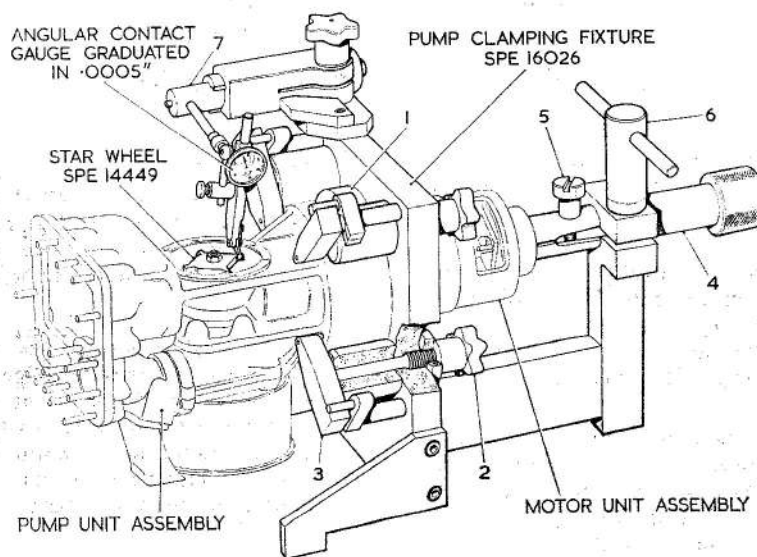

Fig. 19. Tools for checking gear alignment
(2) Place the starwheel SPE. 14449 (fig. 19) on top of the gear and align it so
Gear alignment (refer to fig. 19)
- (2) Clamp the motor shaft nut in the indexing rod (4, fig. 19) by tightening the clamp screw (5).
- (3) Fit the angular contact clock gauge (graduated in 0.005 in.) to the fixture shaft.
- (4) Set one arm of the starwheel SPE. 14449 in line with the centre line of the motor unit, and locate the ball of the clock gauge in the starwheel.
- (5) To prevent any movement of the motor shaft secure the index rod (4, fig. 19) in position by tightening the locking screw (6).